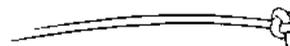

Figure 4.9 Tying the Stopper Knot
STEP 1. Tie a stopper knot at one end of the starter rope (Figure 4.9).